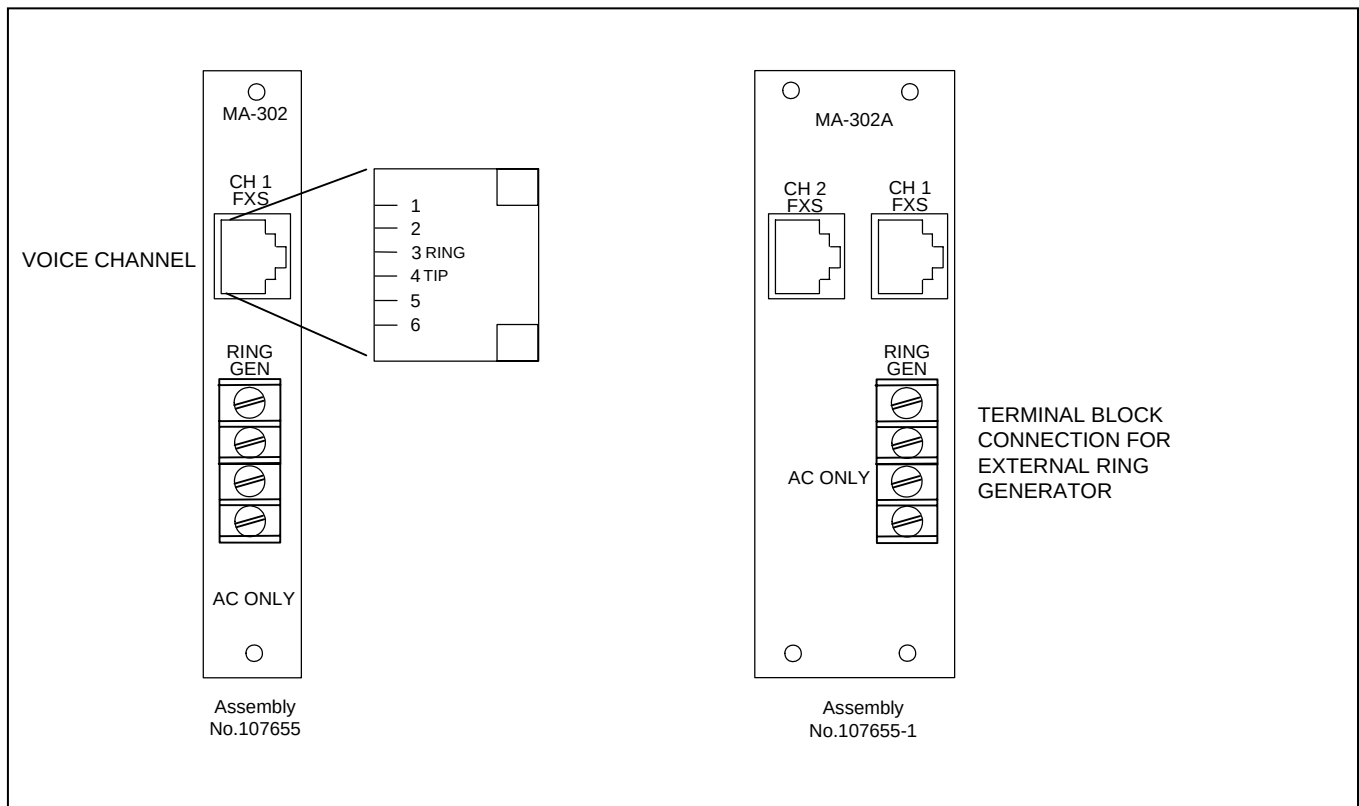

Figure 5. MA-302 and MA-302A, used with the RFL VF-16B station end modules.
The MA-302 has a single channel voice connection via an RJ-11 jack. A terminal block is provided for connection to an external ring generator. Used for applications that require longer distances (up to 2 miles or 3.2 km) or higher ring voltages. (See Figure 5.)
The MA-302A has a dual channel voice connection via two RJ-11 jacks. A terminal block is provided for connection to an external ring generator. Used for applications that require longer distances (up to 2 miles or 3.2 km) or higher ring voltages. (See Figure 5.)
- If an MA-302, MA-302A Module Adapter is being used, plug the RJ-11 connector or connectors into the appropriate jack. Connect the external ring generator to the terminal block connections as shown in Figure 5.